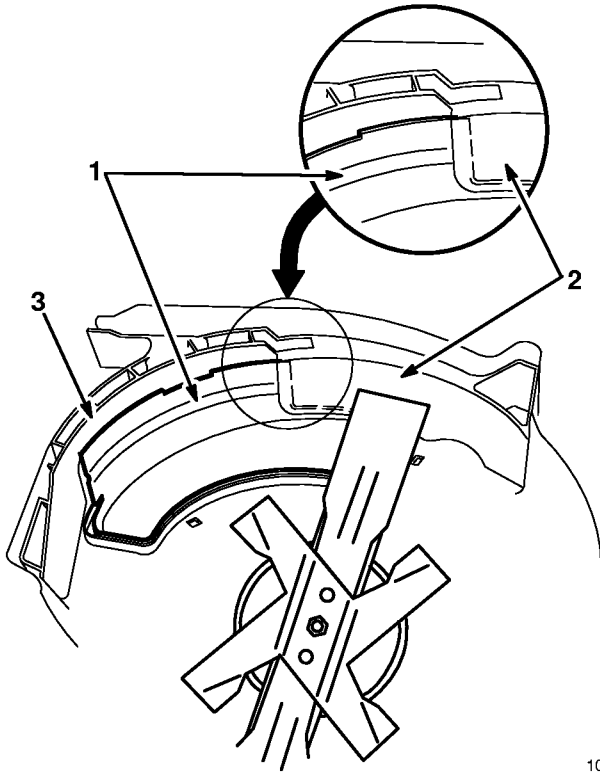

Figure 40
- 9. Check clearance between blade tips and chute baffle making sure there is no contact (Fig. 40).
Note: The chute baffle must go behind the front deck baffle and between blade and toe guard to prevent contact with blade (Fig. 40).